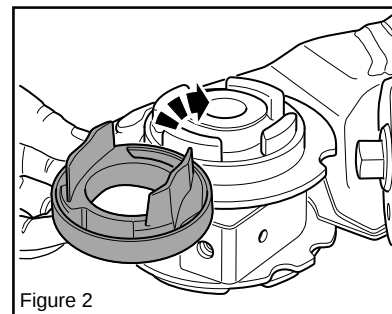
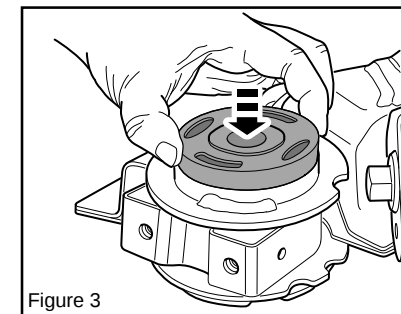

Figure 2
Figure 3
4. Install supplied 9169A bush into the top of the front cradle mount using a small amount of grease supplied. (Figure 2 & Figure 3).